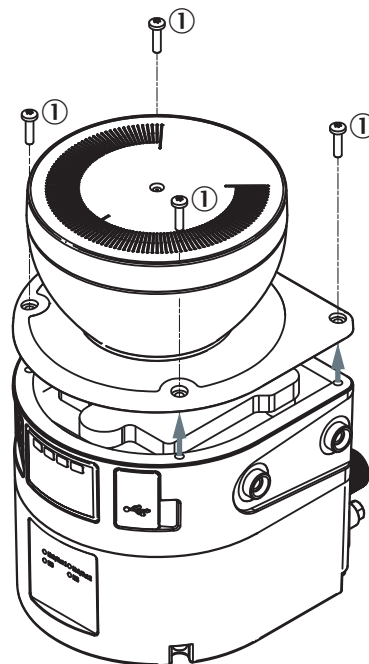

Figure 82: Fixing screws for the optics cover
13. Screw in new fixing screws, see figure 82, page 136.